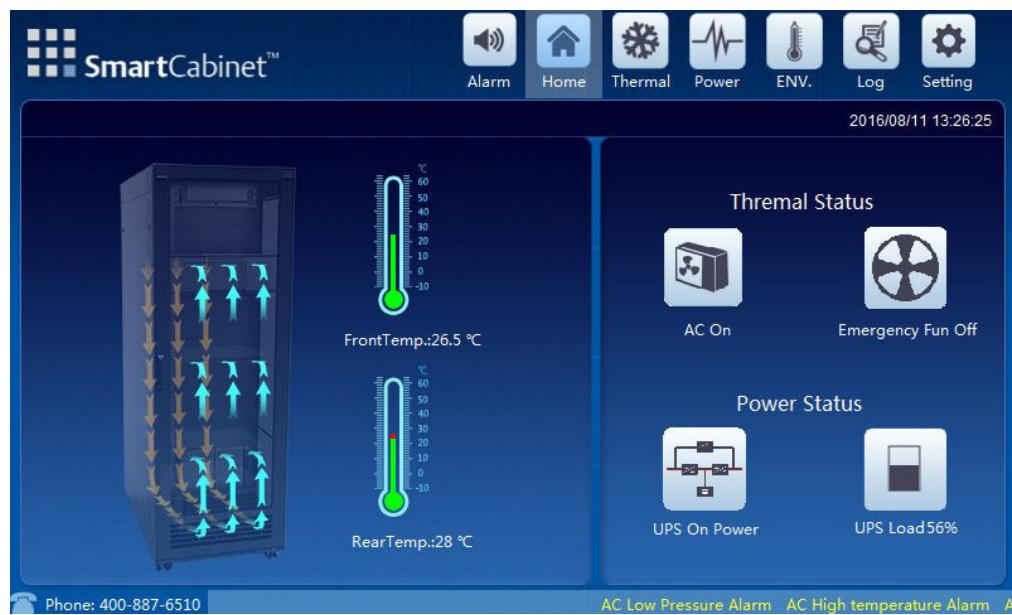

Figure 3-4 SmartCabinet LCD Screen
1. On startup, the following screen as shown in Figure 3-4 is displayed on the LCD screen: